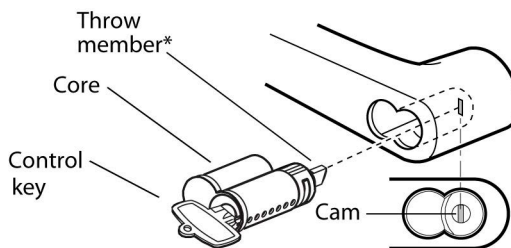

Figure 17 Installing the core
- 2 Install the throw member into the back of the core. See Figure 17.
- 3 Insert the control key into the core and rotate the key 15 degrees to the right.